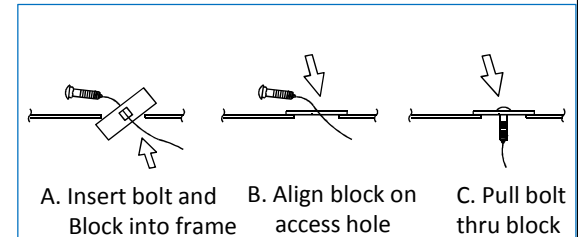

Figure 6.
10. **Install carriage bolts & blocks** –Using the reverse fish wire method, attach pull wires to carriage bolts and install the 1/2 carriage bolts and spacer blocks into the rearward slots in the bottom of frame rails. See Figure 6.